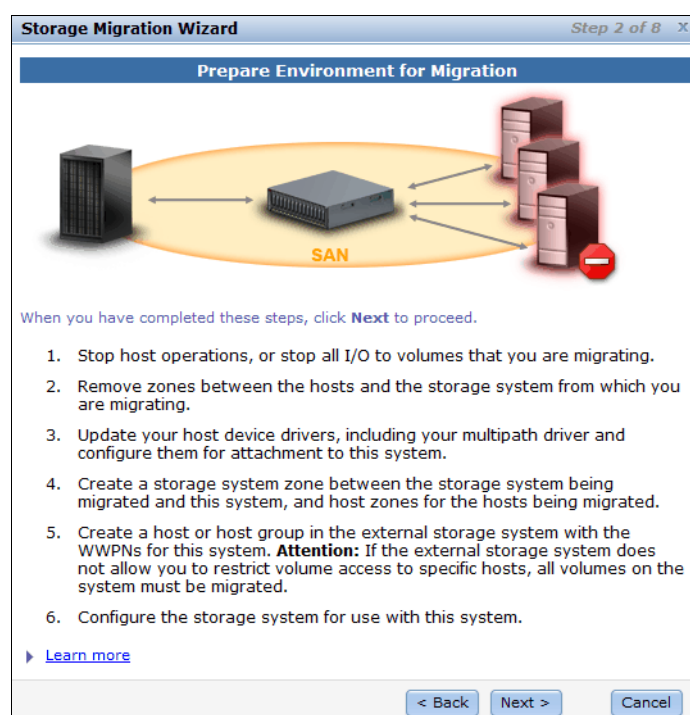

Figure 7-11 Storage Migration Wizard step 2 - Prepare the environment for migration
2. The Step 2 of the Storage Migration Wizard is to prepare the environment for migration, and click **Next** (Figure 7-11).